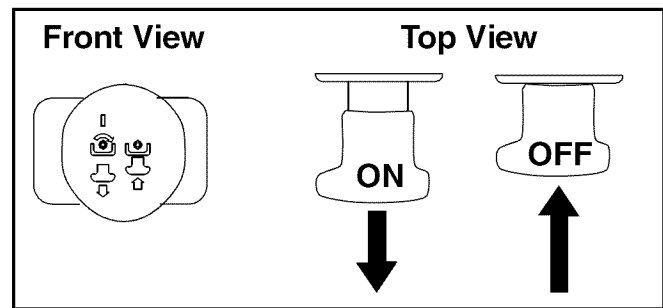

Figure 8
- Pull the PTO/Blade Engage knob outward into the engaged (ON) position. See Figure 8.
**IMPORTANT:** With the ignition key in the **NORMAL MOWING** position, the PTO clutch will automatically shut off if the PTO (Blade Engage) knob is moved into the engaged (ON) position with the shift lever in Reverse. Refer to **Safety Interlock Switches** on page 15.